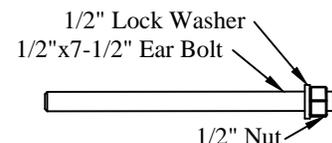

Figure 5: Mounting ear bolt.
9. Place a 1/2" lock washer and 1/2" nut on each 1/2"x7-1/2" ear bolt (Figure 5).